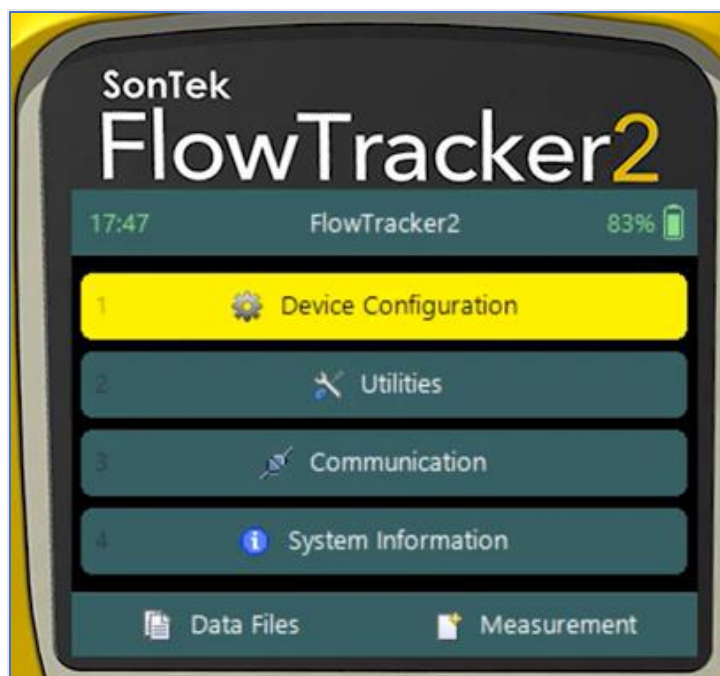

Figure SOP 24.3. FlowTracker2 Main Menu.
2. Navigate to device configuration and press the Enter key to enter the Device Configuration Menu (Figure SOP 24.3).